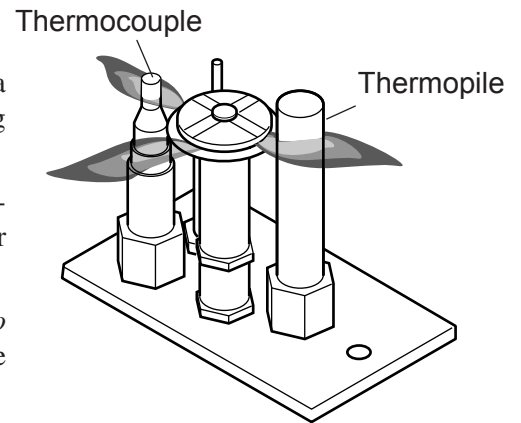

Figure 39 - Before taking unit apart, check pilot flame. Flame should touch thermocouple and thermopile
1. Check pilot flame. Flame should touch approximately $\frac{3}{8}$ " of the top of thermopile and touch top of thermocouple. *See Figure 39.* If not, contact dealer for service.